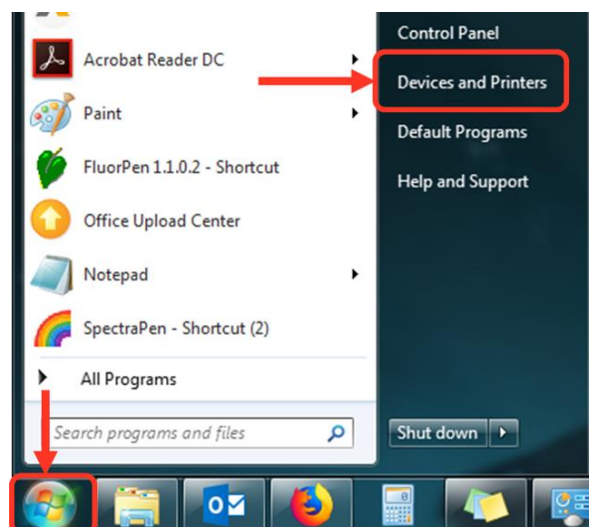

Fig. 5 Start bluetooth application.
- Select: Start > Devices and Printers (Fig. 5).